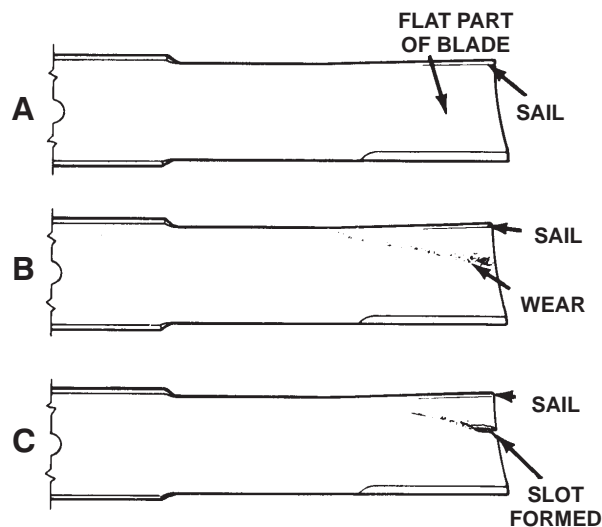

Figure 88
2. Examine the cutting ends of the blade carefully, especially where the flat and curved parts of the blade meet (Fig. 88-A). Since sand and abrasive material can wear away the metal that connects the flat and curved parts of the blade, check the blade before using the mower. If wear is noticed (Fig. 88-B), replace the blade.
If the blade is allowed to wear, a slot will form between the sail and flat part of the blade (Fig. 88-C). Eventually a piece of the blade may break off and be thrown from under the housing, possibly resulting in serious injury to you or bystanders.